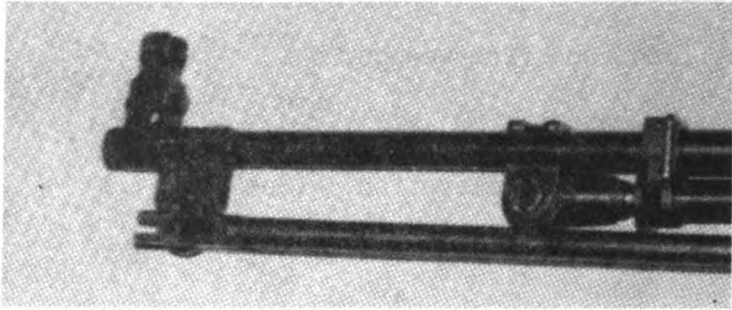

Figure 2
(3) Front sight elevation is adjusted by screwing front sight post in or out. (See fig. 2.)
(4) Front sight windage. (See fig. 2.)